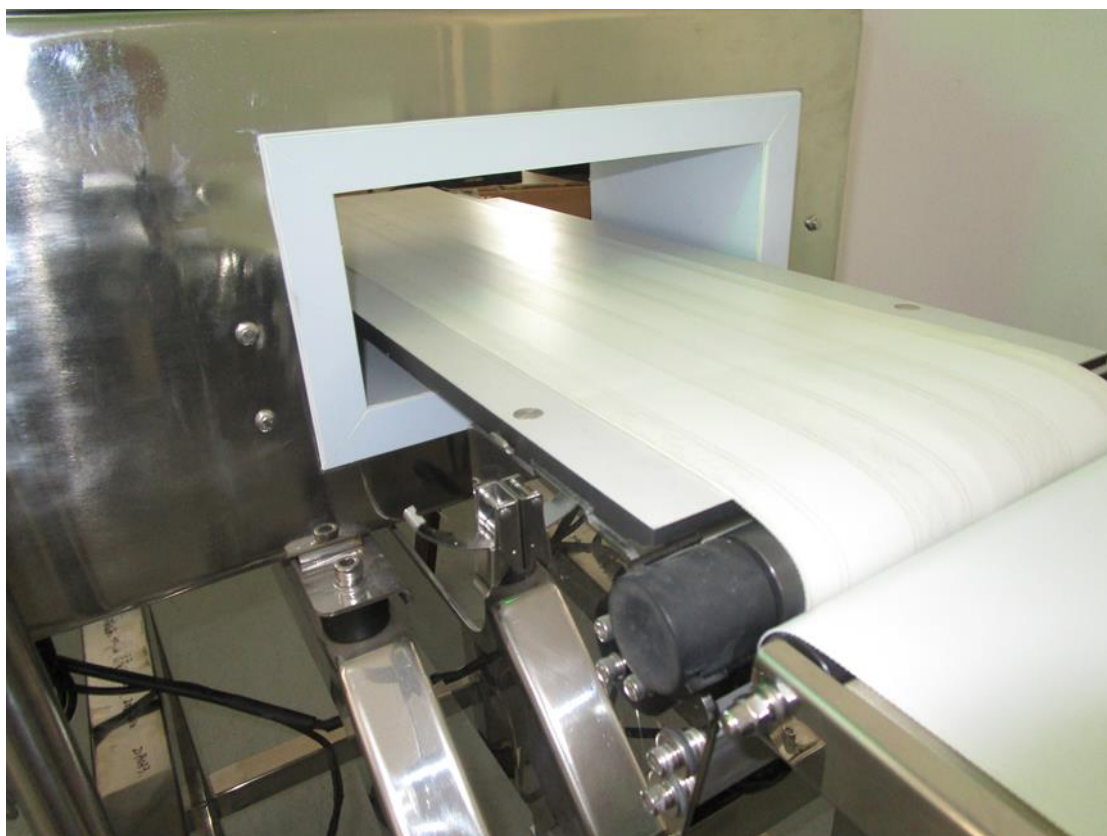

Figure 2-2 The placement of metal detectors and outfeed conveyor
1) Place the metal detector, and then place the outfeed conveyor at the exit of the metal detector (Figure 2-2). Keep the distance between the two conveyor belts at 1~3mm, and the other parts will not touch each other.